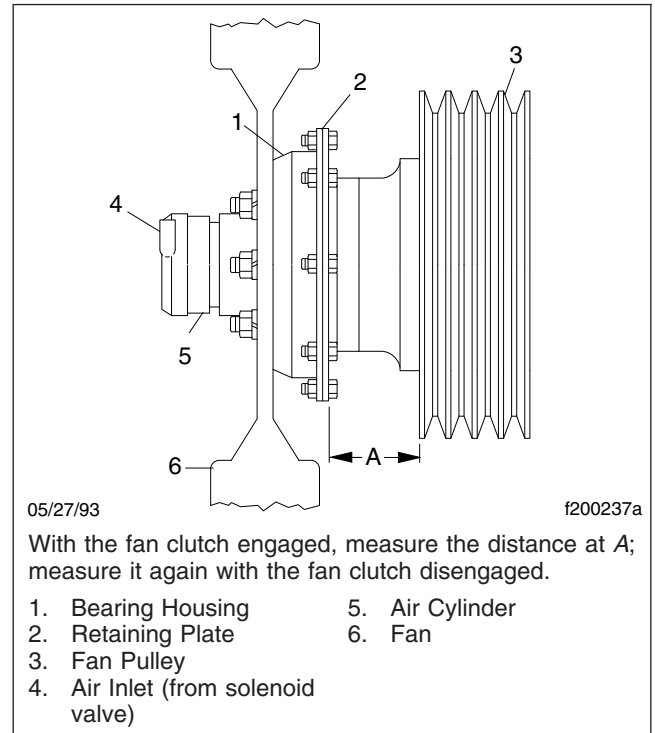

Fig. 9, Kysor K22RA Fan Clutch Lining Wear Checking
2. Measure the distance from the back surface of the fan clutch retaining plate to the forward-most edge of the fan belt pulley. See Fig. 9, Ref. A.